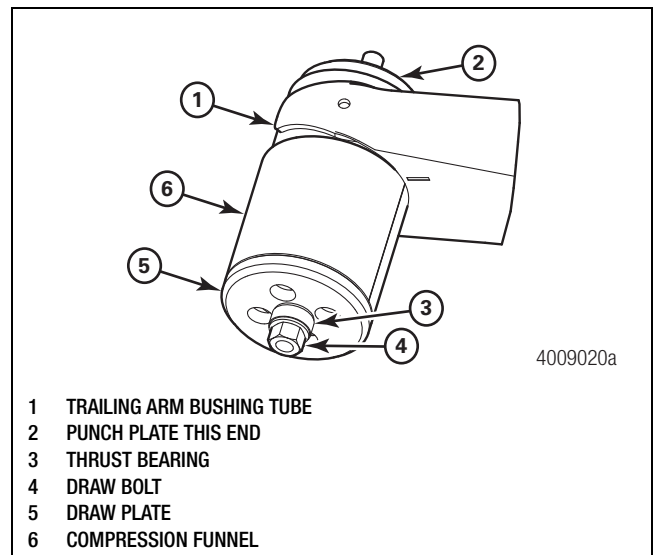

Figure 6.10
12. Snug the draw bolt while ensuring that the compression funnel rests securely against the trailing arm bushing tube. Figure 6.10. The thrust bearing must be free to turn at all times. Meritor recommends lubricating the draw bolt threads and between the thrust bearing and washers with bearing grease such as Shell Darina Grease 1 or equivalent, before each bushing replacement.